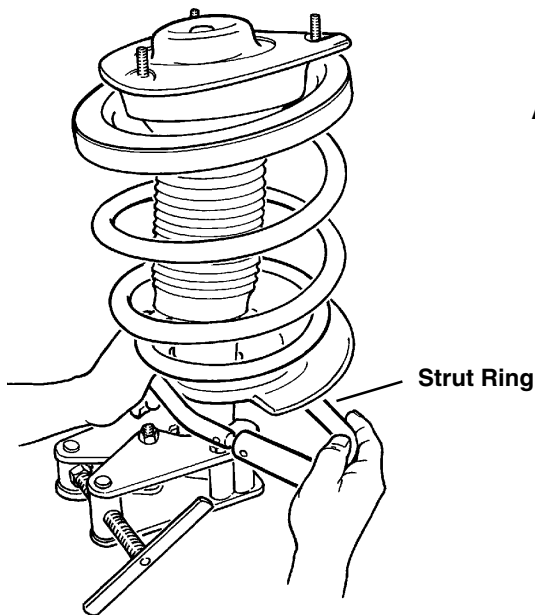

Figure 2
2. Place the strut ring around the strut tube below the spring and shield, if supplied. See Figure 2.